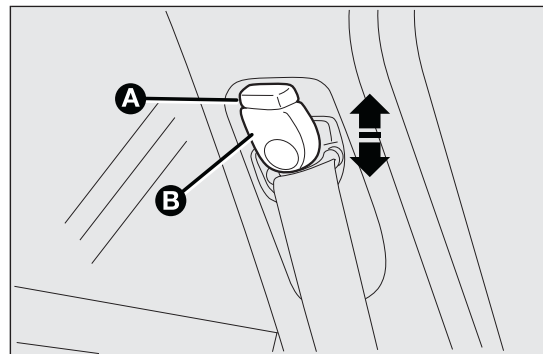

fig. 120
To adjust, press button A fig. 120 and raise or lower handle B.
***After adjustment, always check that the cursor to which the ring is fastened is locked in one of the preset positions. To do this, with the button A fig. 120 released, exert a further pressure to allow the anchor device to catch if release did not take place at one of the preset positions.***